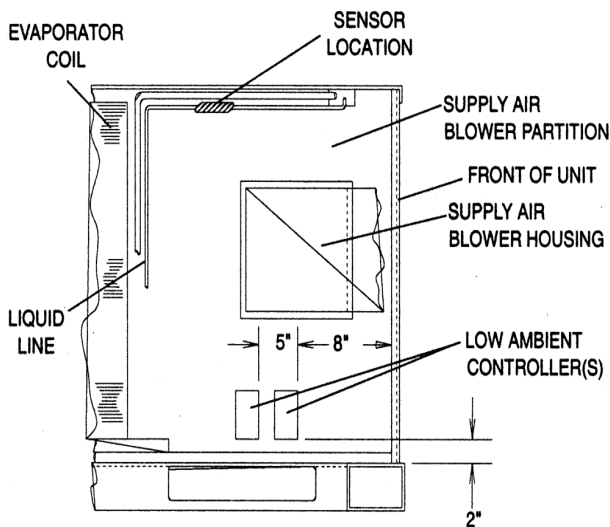

FIGURE 1 - ELECTRICAL BOX AND SENSOR LOCATION
- Mount the controller(s) on the supply air blower partition as shown in Figure 1, or directly to the blower housing using the adhesive tape and/or drilling screws provided. One controller is used for 3 thru 6 ton units and two controllers are used for 7-1/2 thru 12-1/2 ton units.
- Install the sensor to the top of the liquid line exiting the condenser coil at the location shown in Figure 1.